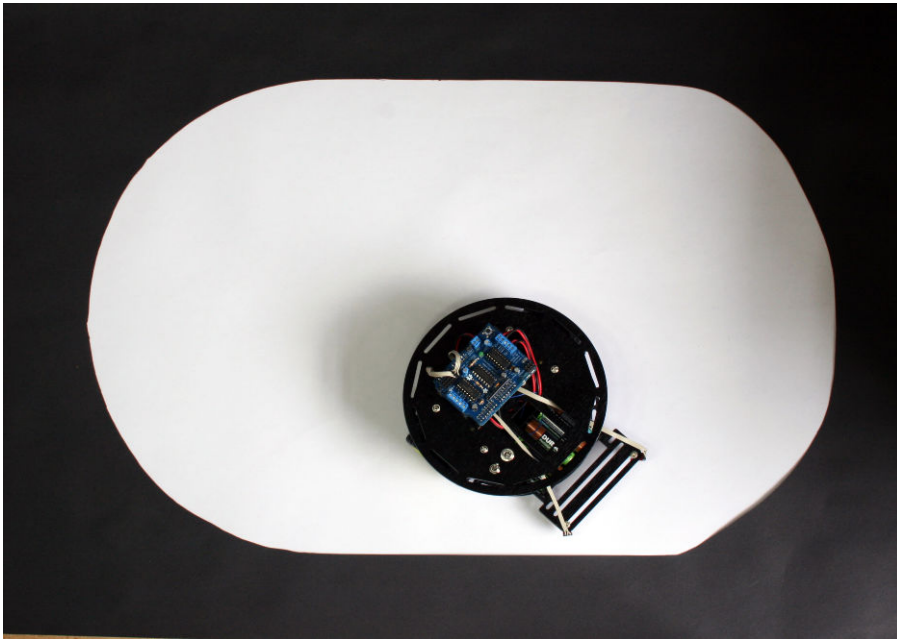
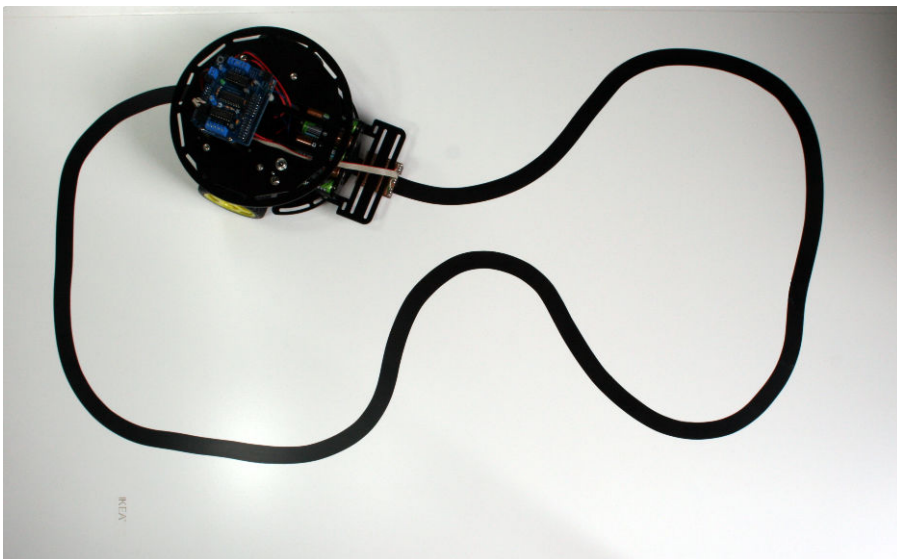

Figure 1-3. Robot moves around but remains within the white area
Figure 1-4. Robot follows black line
- Enabling the robot to see the ground—using IR sensors for line and edge detection (see Figure 1-3 and Figure 1-4).